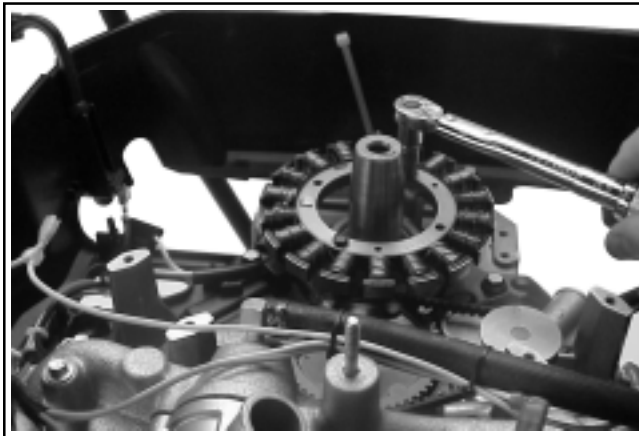

Figure 11-71. Torquing Stator Mounting Screw.
- Position the stator onto the mounting bosses so the leads are at the bottom, and directed out toward the rectifier-regulator mount on the #1 side. Apply pipe sealant with Teflon® (not Teflon® tape) to the threads of the two stator mounting screws. Align the mounting holes and install the two hex. flange screws. Torque each screw to **6.2 N·m (55 in. lb.)**. See Figure 11-71.